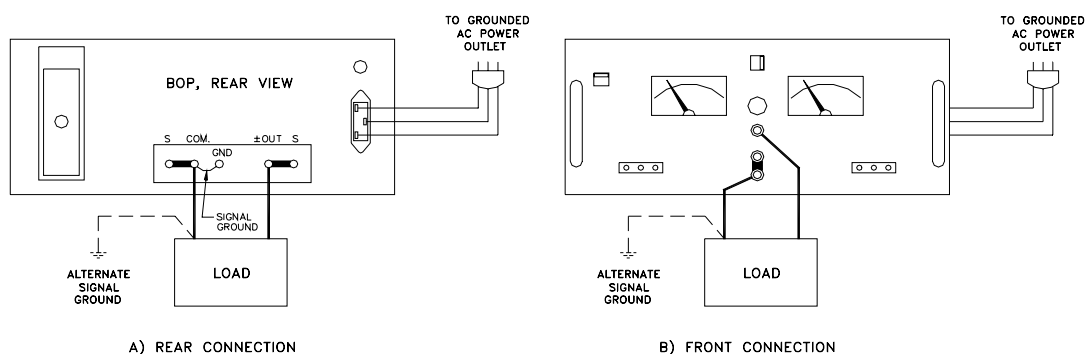

FIGURE 3-5. BASIC 2-WIRE LOAD CONNECTION AND GROUNDING CONNECTIONS BETWEEN THE BOP AND THE LOAD
- B) **LOAD CONNECTION (I):** The basic interconnection between the BOP and the load are shown in FIG. 3-5. The load wire size for the 2-wire connection shown should be as large as practicable to keep the series resistance and inductance low. In addition, the load wire pair should be tightly twisted, to reduce possible “pick-up” from stray magnetic fields. The basic 2-wire connection is useful where the voltage drop in the load wires is of minor consequence, as for example, operation into a constant load or in a constant current operating mode.